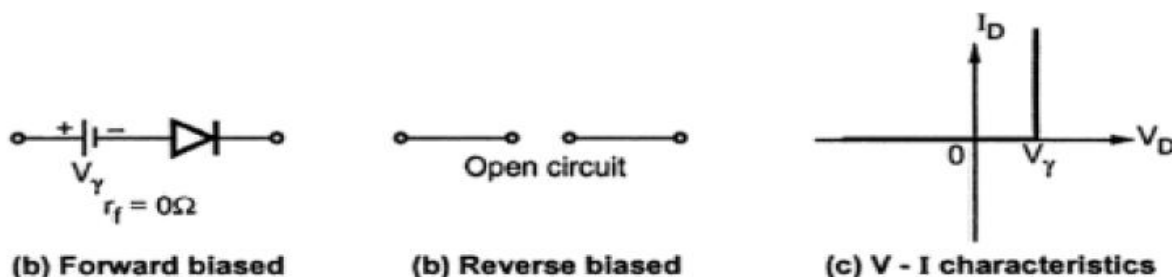

Fig. 1.19 Linear piecewise model of diode when $r_f = 0$
- In such approximation, the diode **forward resistance is neglected** and the diode is assumed to conduct instantaneously when applied forward biased voltage V_D is equal to cut-in voltage V_Y and is shown in the fig. 1.19 (a).
- When the diode is in reverse biased condition i.e $V_D < 0$, the diode does not conduct at all and is shown in the Fig. 1.19 (b).
- As the diode conducts at $V_D=V_Y$, the V-I characteristics with straight lines is as shown in the Fig. 1.19 (c).